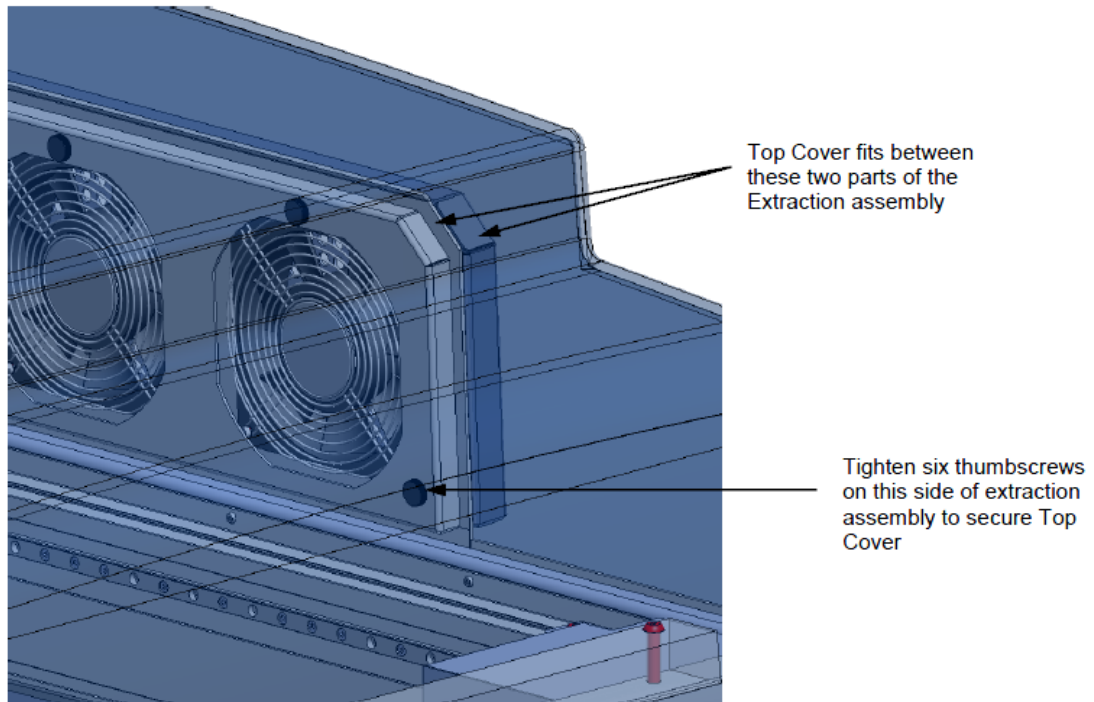

Figure F-2: Extraction Assembly Thumbscrews
1. Remove the thumbscrews that attach the extraction assembly to the top cover (Figure F-2).